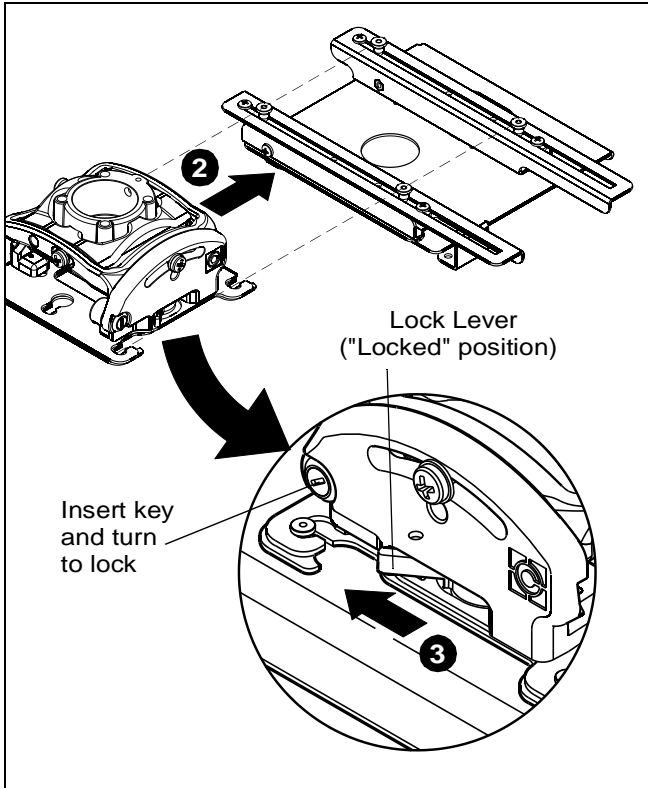

Figure 5
2. Slide RPMA onto LSB-101 brackets (A and B). (See Figure 5)